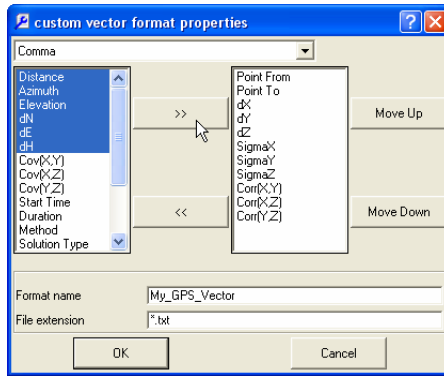

Figure 3-17. Add Elements to Custom Vector File Type
column (Figure 3-17). Use the **Move Left** button (<<) to remove elements from the format.
9. Name the format and give it an extension to include it in the *Format name* list (Figure 3-17 on page 3-22).